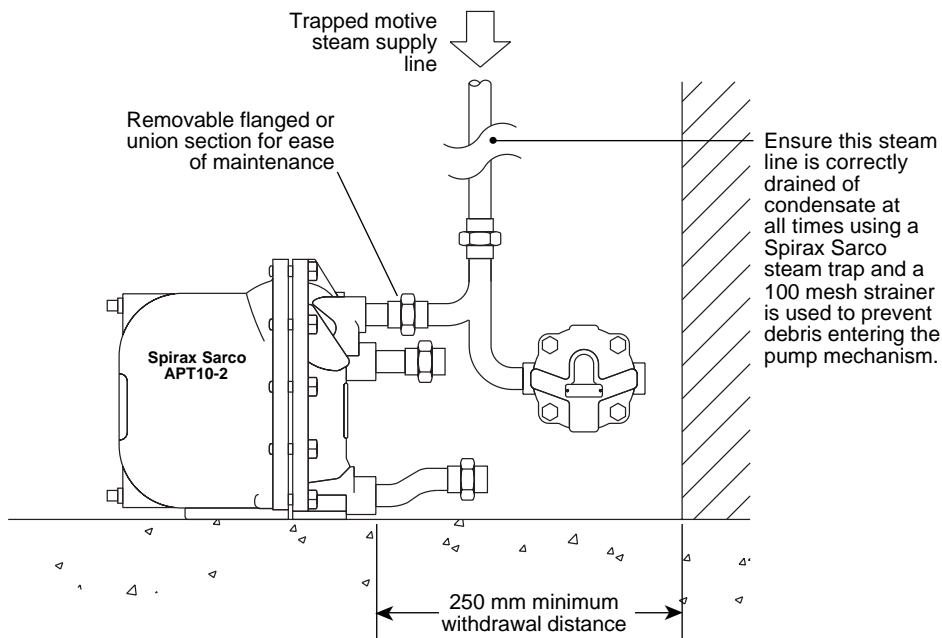

Fig. 4 Suggested coupling of motive supply and exhaust lines.
3.3 Connections (refer to installation diagram Fig. 4 opposite)
4.1 After ensuring the inlet and outlet pipe connections and steam motive/exhaust connections are coupled in accordance with Fig.4/5, slowly open the motive steam inlet line to supply pressure to the APT10-2. Ensure the exhaust/balance line is open and not restricted in any way.